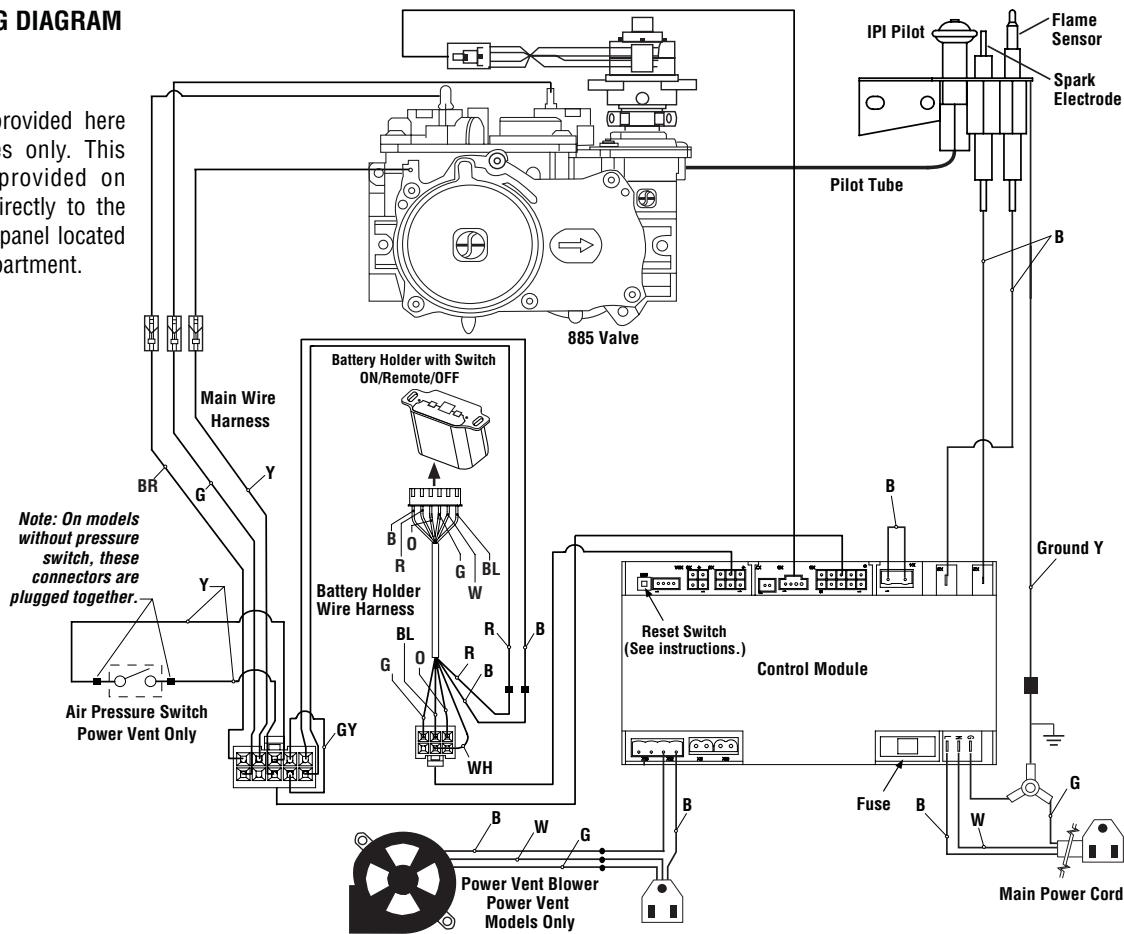

Figure 32
4. Connect the black power supply wire to the **power outlet's red pigtail lead** and the white power supply wire to the **common terminal** of the outlet as shown in **Figures 32 and 33**.